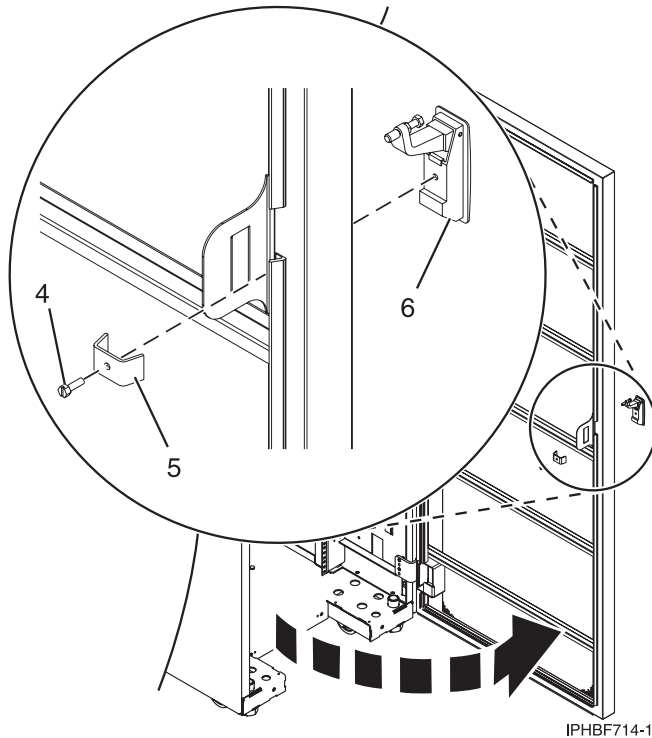

Figure 26. Removing the existing door latch
- b. On the inside of the door, remove the screw (4) in Figure 26 that secures the lock to the rack door.
- c. Remove the bracket (5).
- d. From the outside of the door, remove the door latch (6).
- a. Insert the keyed rack lock into the latch slot on the front of the door (6) in Figure 26.
- b. Secure the lock by attaching the lock bracket (5) with the screw (4), on the inside of the door.